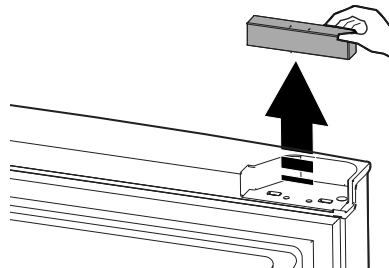

Figure 3
- 4 Remove the reed switch magnet from the corner of refrigerator door and set aside (see Figure 3).